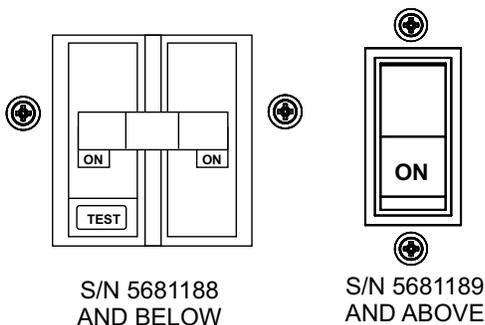

Figure 21. Main Circuit Breaker (ON)
8. Place main circuit breaker (Figure 21) in the **ON** position.